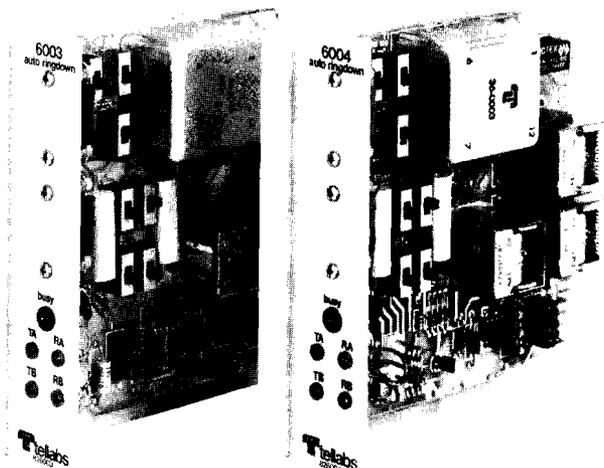

figure 1. 6003 and 6004 2Wire Automatic Ringdown modules
1.02 This practice section is revised to add a second option-switch-location diagram in section 3. This new diagram shows option-switch locations and designations for a second, later manufacturing version of the Issue 2 6003 and 6004 modules (Tellabs part numbers **826003** and **826004**). This later version is not documented in previous practice revisions. Please be aware that the earlier and later versions of the 6003 and 6004 are functionally identical. However, the location and orientation of several printed-circuit-board option switches on the later version of each module are changed with respect to the earlier version. The changes are obvious enough that the two versions are easily distinguishable from one another, although it should be noted that the earlier version may have either an aluminum front panel with visible screw heads protruding (as shown in figure 1) or a plastic front panel with no screw heads protruding. Thus, comparing your module's option switch layout to those shown in figure 4 is the only way to make certain which version you have. Additional practice changes include minor corrections to the block diagram, section 5 of the practice, and updated information in the text portion of section 7.